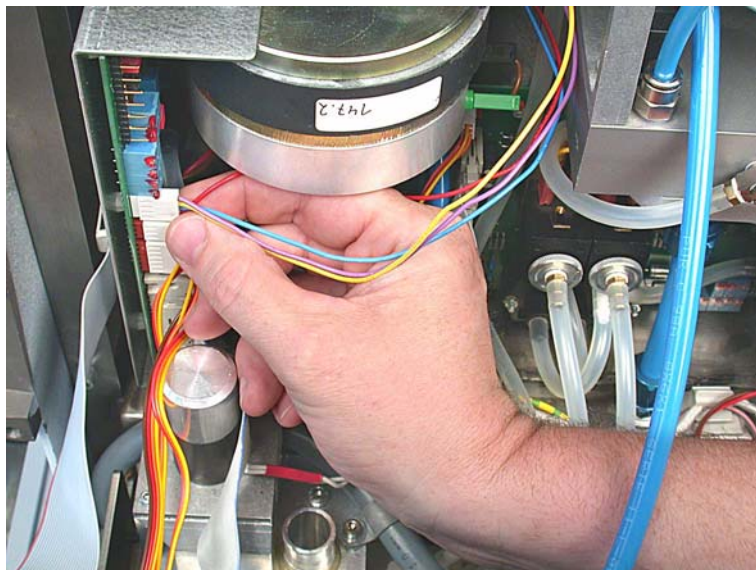

Figure 11-119. Removing the electrical connections from the servo board
5. Remove all electrical connections from the servo board. (Figure 11-119.)